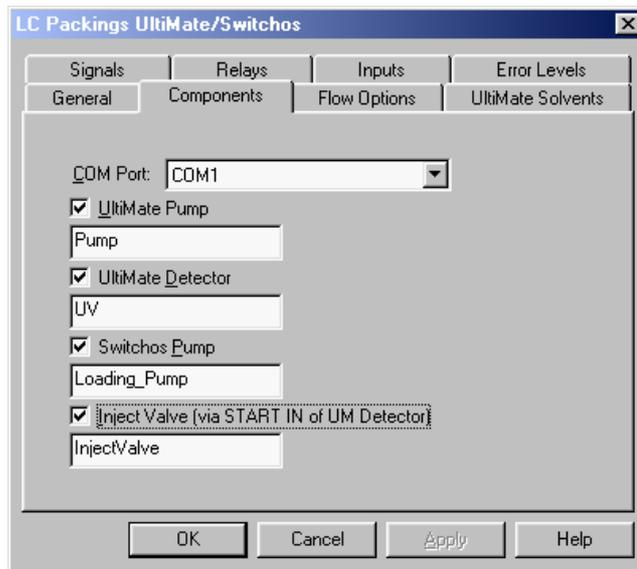

FIGURE A-10. The Components Tab
- b) Click on the **Components** tab and check the **Inject Valve (via START IN ...)** box (FIGURE A-10).